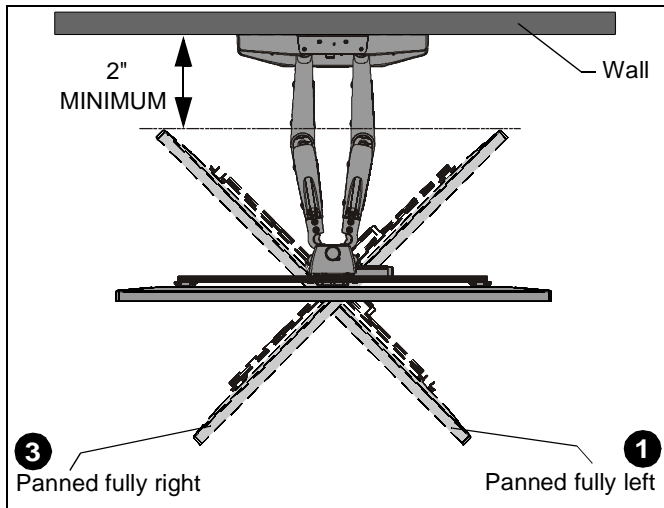

Figure 38
1. Pan PXR to left until the inside edge of display is at least 2" away from the wall. (See Figure 38)
3. Pan PXR to right until the inside edge of display is at least 2" away from the wall. (See Figure 38)